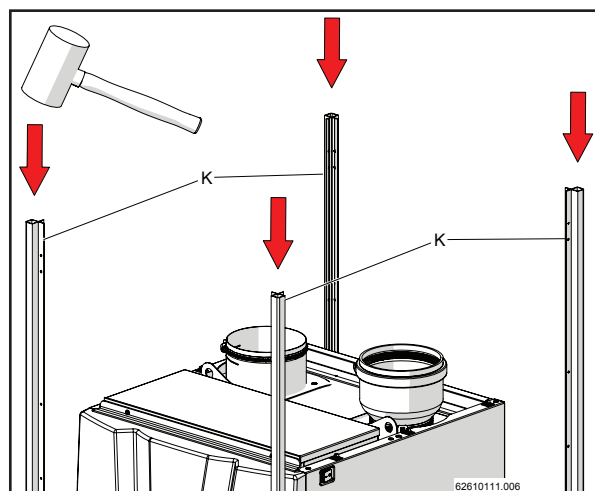

Figure 15-40
- 5.- Insert the four tubes "K" in correspondence with the pins present on the lower framework "J" using a rubber mallet (figures 15-40 and 15-41).